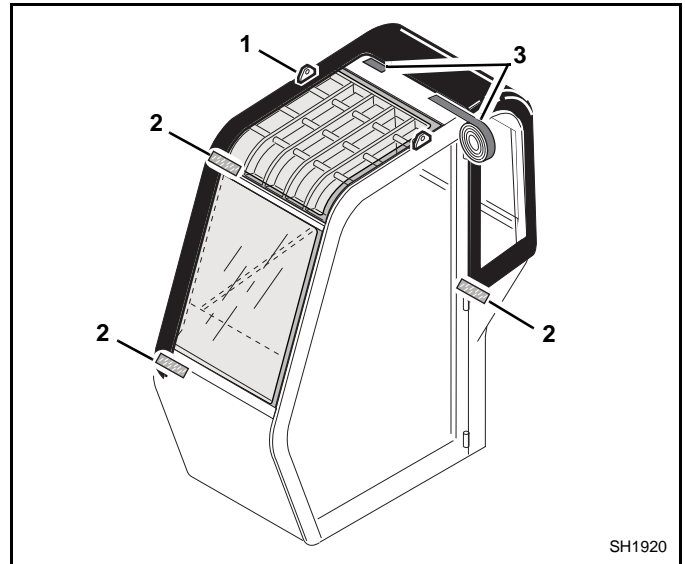

Figure 6
1. Before installing the hook strip material, lay the main cab enclosure section of the soft cab kit over the top of the cab structure to check fit and position (Figure 6). Be sure the lifting plate (1) on top of the cab fits through the opening in the top edge of the enclosure. Adjust and reposition as needed for a even fit.
2. Once it is in position, secure the corners with masking tape (Figure 6, 2). To insure proper alignment of the hook strip mating surfaces, mark the outside edges with masking tape (3). After marking, remove the enclosure and store until ready for installation.